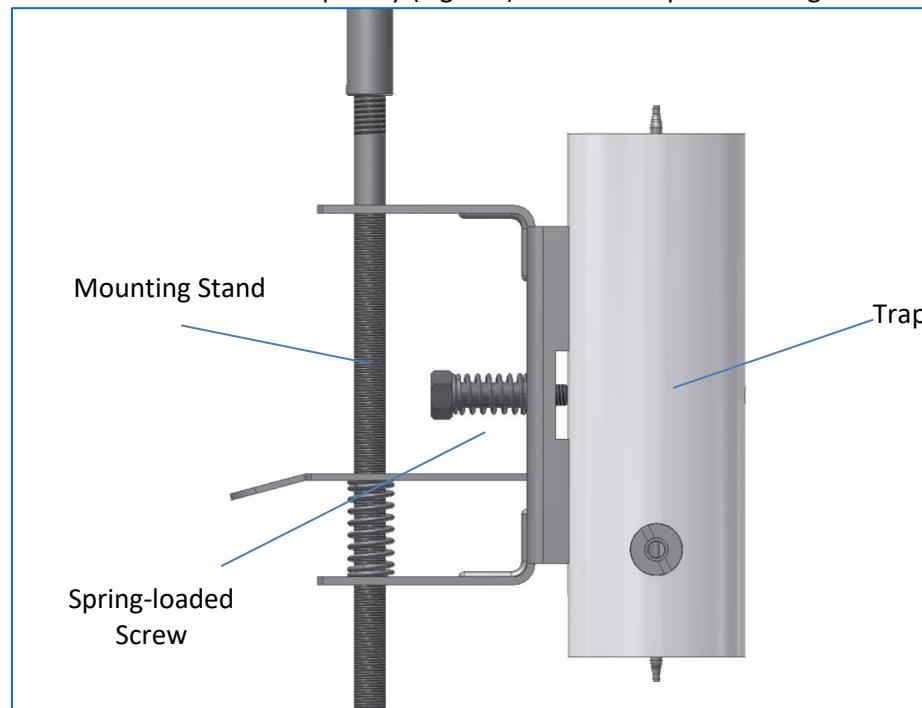

Figure 4.6
3. Fix the trap body to the mounting bracket. The spring-loaded screw should be screwed into one of the two holes in the trap body (Fig. 4-6). Use 8 mm spanner to tighten the screw.